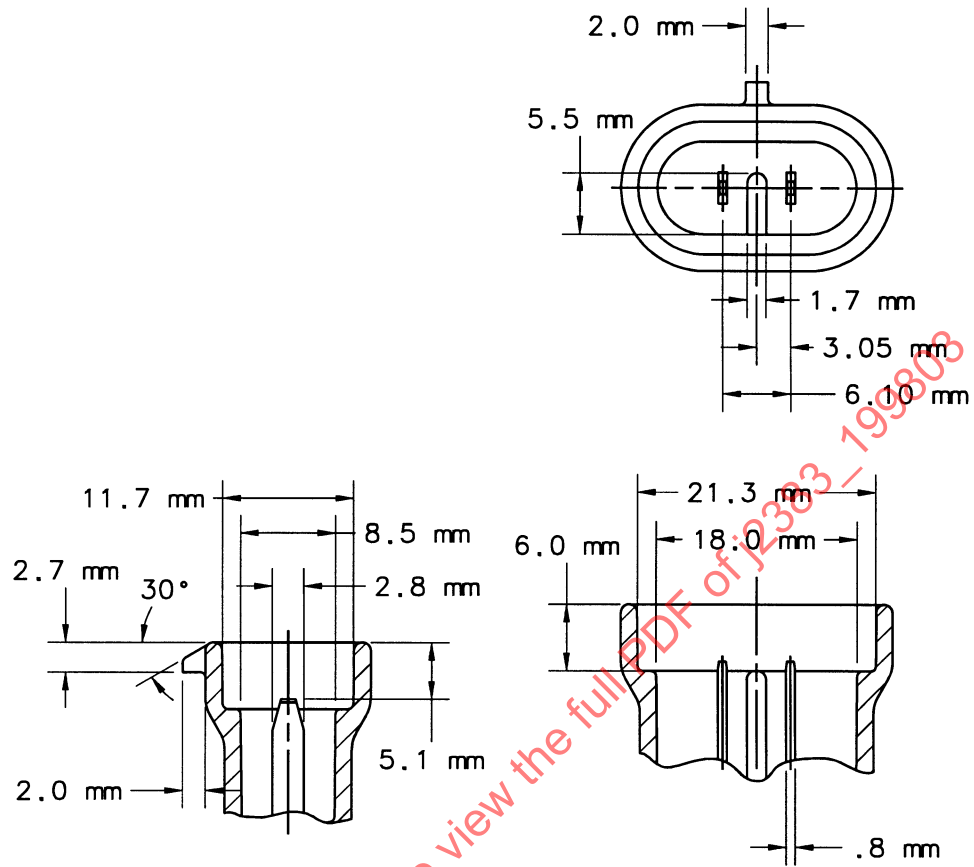

FIGURE 3- HEATER CONNECTOR DESIGN
4.6 Electric Heater Connections—Connection will be via a sealed and locked 2-pin connector. The male connector will be on the dryer and conform to the design in Figure 3. Vehicle wiring will provide slack and strain relief sufficient to prevent connector seal distortion. All wiring connections (i.e., splices) must be waterproofed. Power lead will be ON when the vehicle ignition is on and OFF when the ignition is off. Ground lead must be connected to the vehicle ground system, not grounded to the air dryer body.